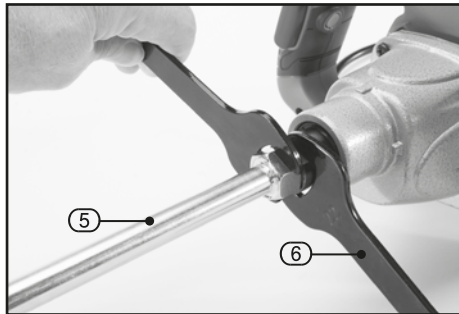

FIG.1
8.1 PADDLE INSTALLATION – FIG. 1
- Mount mixing paddle (5) onto spindle and tighten using wrench (6).